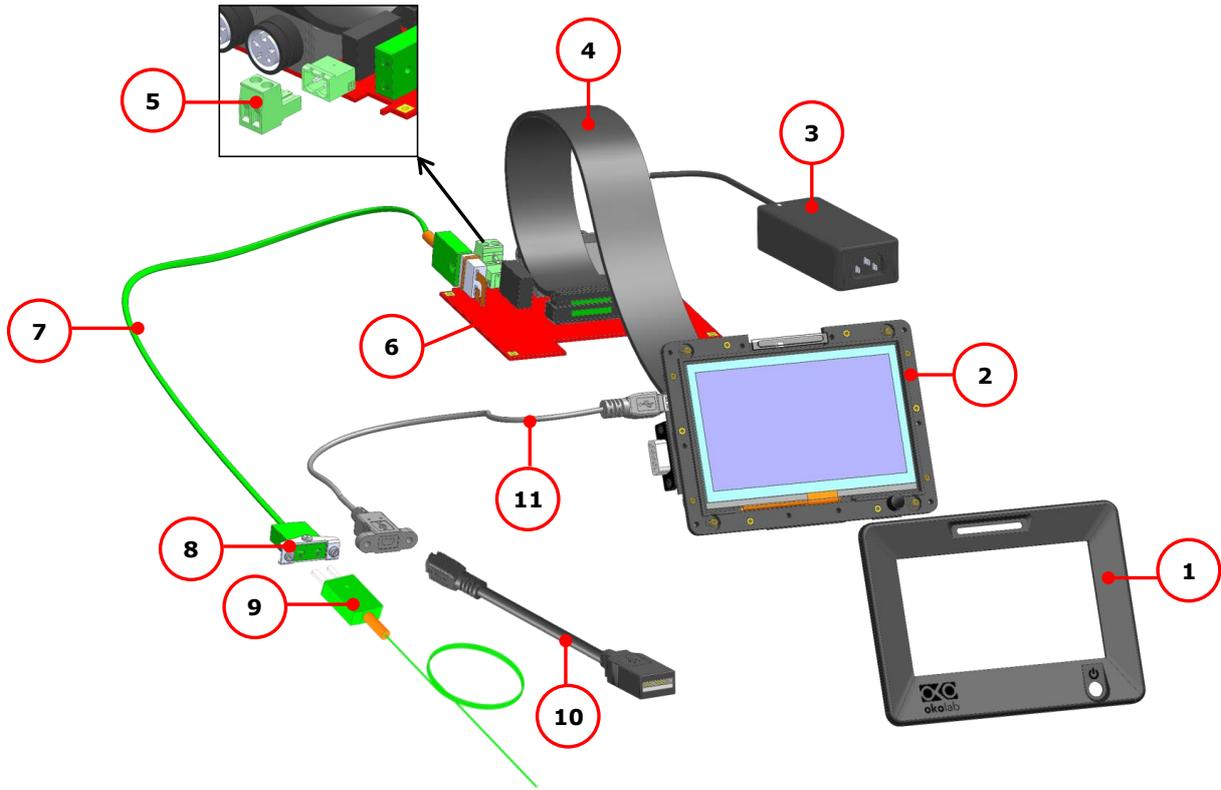
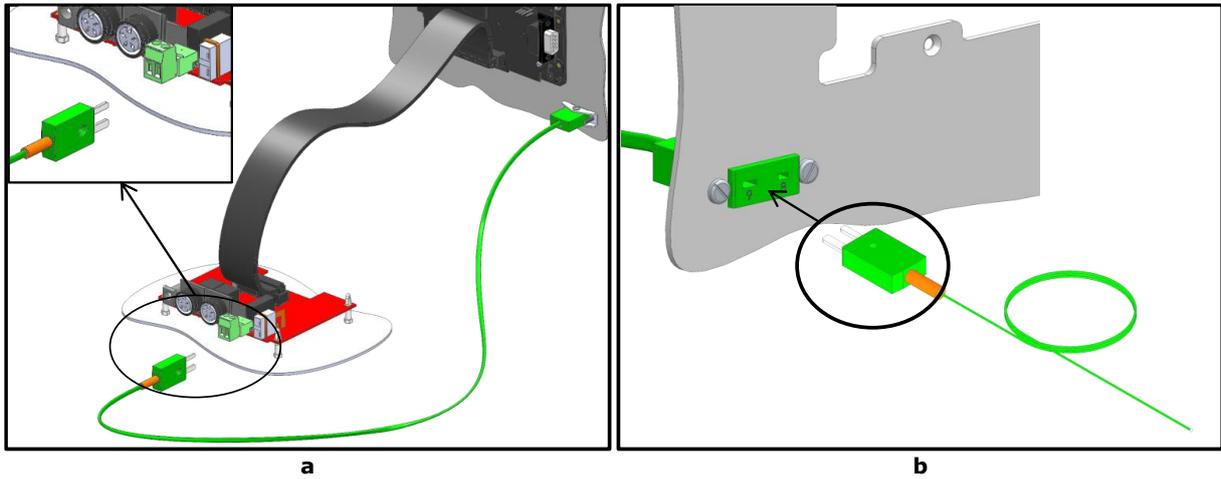

Figure 79.H401-T-CONTROLLER-OEM – Components.
Figure 87. T sensor connection (a) Extension thermocouple cable connection to the control board (b) T sensor connection to the panel
- 1 **Touchscreen display bezel.** See pointer 1 in Figure 79.
- 2 **Touchscreen display.** See pointer 2 in Figure 79.
- 3 **Power feeder and power cord.** 24V DC-60 W power feeder. See pointer 2 in Figure 79.
- 4 **Communication cable.** See pointer 4 in Figure 79. (Flat Shielded Cable 24 way (for example Cod.523-151-2831-024 on www.mouser.it).
- 5 **Alarm screw terminal.** Contact closure alarm. See pointer 5 in Figure 79.
- 6 **Control board.** . See pointer 6 in Figure 79.
- 7 **CAB 110.** Panel mount extension thermocouple cable (pointer 7 in Figure 79). To connect the T sensor to the control board.
- 8 **Assembly latch.** To fix the extension thermocouple cable connector to the panel. See pointer 8 in Figure 79.
- 9 **T Sensor.** Fine gauge immersible thermocouple, which can be used to calibrate the heating devices connected to the Controller and to meter temperature, as needed. See pointer 9 in Figure 79.
- 10 **MINI-USB-OTG.** Mini USB OTG cable to connect a USB drive to the H401-T-CONTROLLER-OEM for data download. See pointer 10 in Figure 79.
- 11 **Ultra-Thin Mini-B Extension Cable.** Panel mount extension for MINI-USB-OTG connection to connect the MINI-USB-OTG to the Control board. See pointer 11 in Figure 79.
H401-T-CONTROLLER-OEM is equipped with a T sensor and a panel mount extension thermocouple cable, pointer 6 and 7 in Figure 79, respectively. To use the T sensor, it is necessary to use CAB 110, (pointer 6 in Figure 79) between the panel and the control board. To do so, follow the instructions below:
3. Connect the extension thermocouple cable (pointer 6 in Figure 79) to the control board as shown in Figure 87(a).
4. Connect the T sensor (pointer 7 in Figure 79) to the panel as shown in Figure 87(b).
To use the MINI-USB port of the Controller, it is necessary to mount the Ultra-Thin Mini-B Extension Cable, pointer 9 in Figure 79, between the panel and the display. To do so, follow the instructions below: